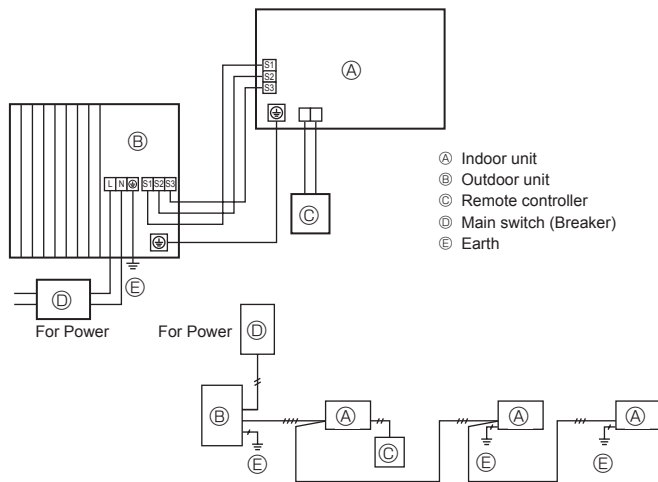

Fig. 7-1
### 7.1. Outdoor unit (Fig. 7-1, Fig. 7-2)
- ① Remove the service panel.
- ② Wire the cables referring to the Fig. 7-1 and the Fig. 7-2.